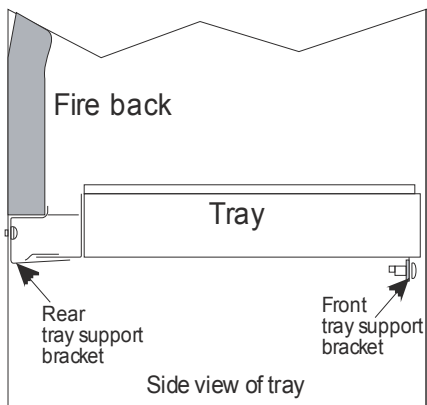

Figure 76
5. Replace the burner tray ensuring that the rear of the burner tray assembly slots into the rear support (see **Figure 76**).